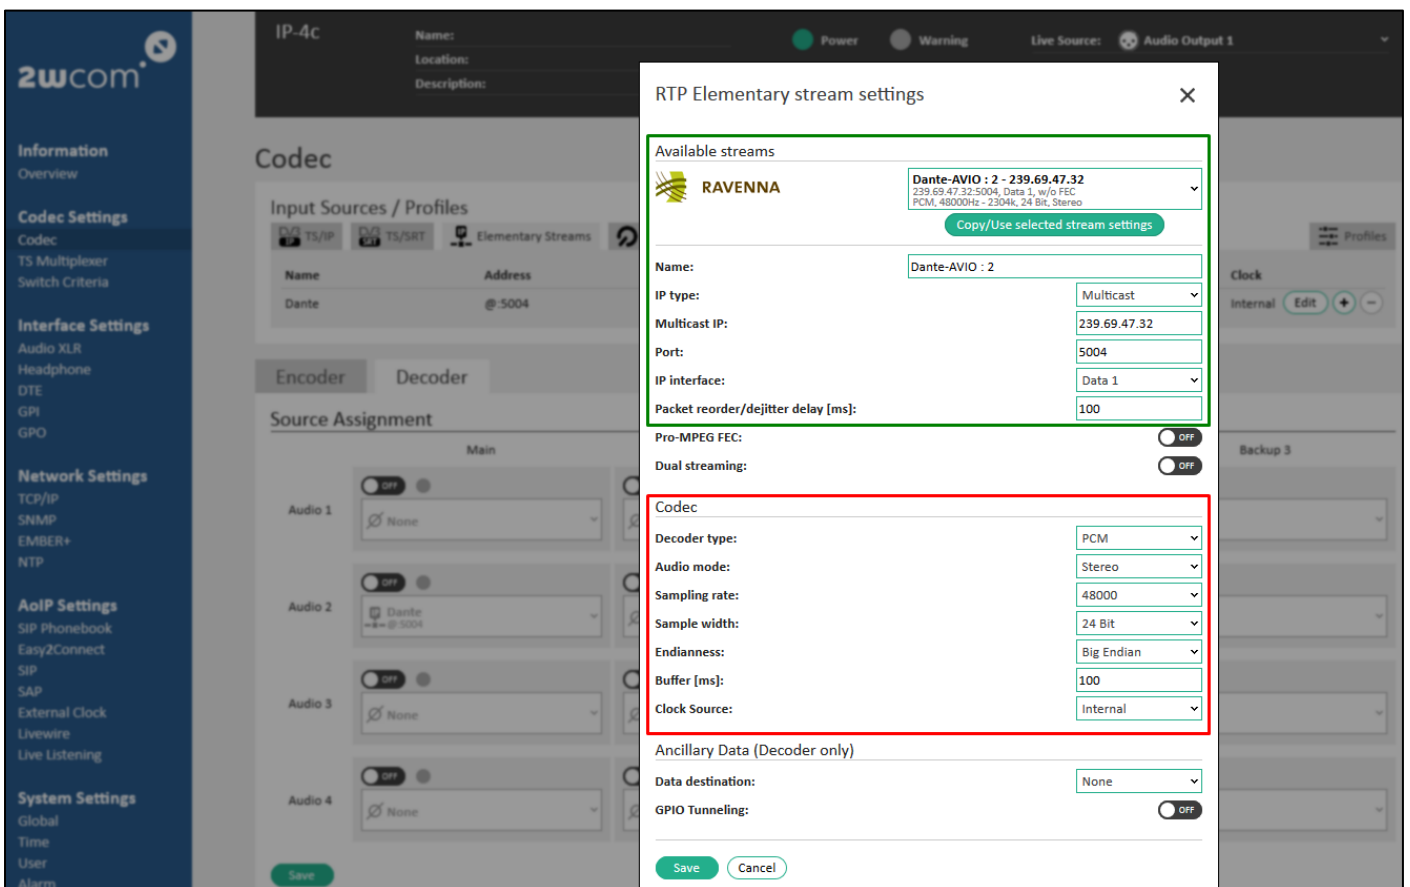

Figure 65: Copied RAVENNA Input Stream Settings and Decoder Configuration
- b) Click “copy/use selected stream settings” to apply the stream settings to the input source preset (see green frame in Figure 65).
- In the “Codec” block set PCM for decoder type and make the following configuration for the decoder (see red frame in Figure 65) :